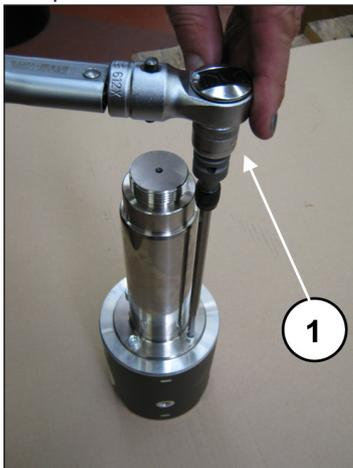

Fig. 51
Lock the piston guide in a vice with the aid of a special tool and calibrate the screws with a torque wrench (pos. ①, Fig. 51) as indicated in chapter 3.